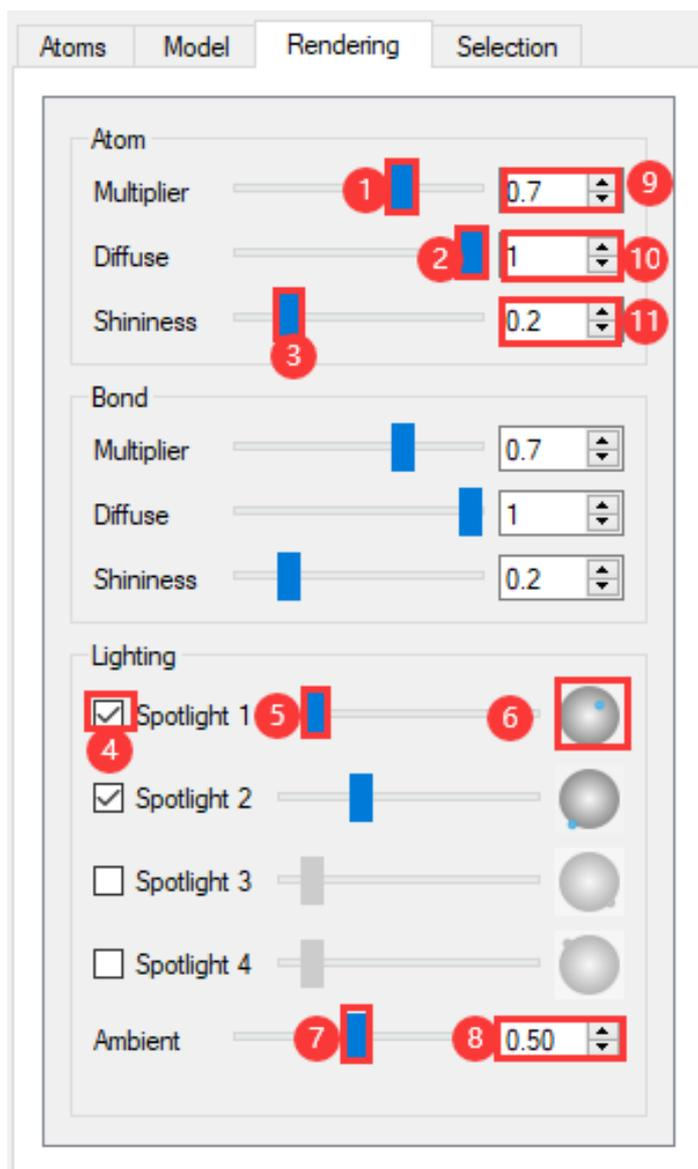
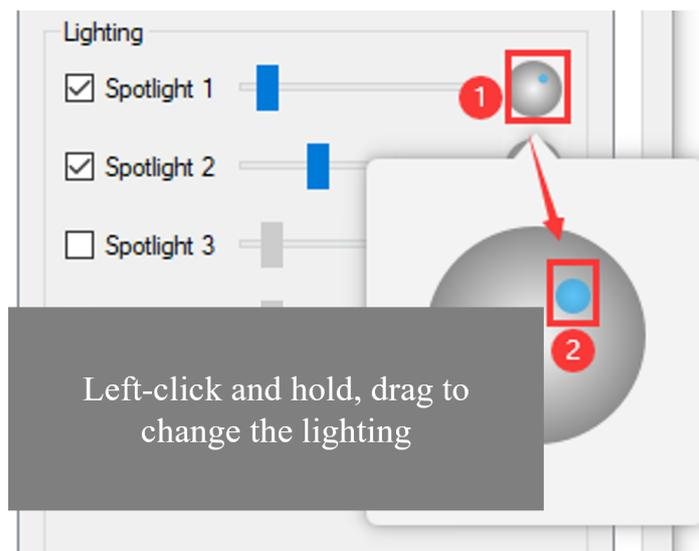

fig. 6.14: Structure Refinement Module Parameter Adjustment Area - Rendering Area
fig. 6.15: User interface for adjusting the beam's position on the atoms.
The Rendering area in the Structure Refinement Module (SRM) parameter adjustment region, as shown in fig. 6.14, is divided into three parts: **Atom**, **Bonds**, and **Lighting**. These allow for lighting adjustments to atoms, bonds, and the entire atomic structure, respectively. Atom and bond lighting is controlled by three parameters: Multiplier, Diffuse, and Shininess. The **Lighting** section adjusts the lighting of the entire atomic structure. This module provides the following functionality:
The following describes the functionality of each labeled feature in the Rendering area of the Structure Refinement Module (SRM) parameter adjustment region, i.e., fig. 6.14:
- * Labels ①, ②, ③ and ⑨, ⑩, ⑪ in fig. 6.14: Adjust the lighting of atoms in the structure by dragging the **slider** at positions ①, ②, ③ or setting the **numerical value** at positions ⑨, ⑩, ⑪. This is achieved by adjusting the Multiplier (high-light coefficient), Diffuse (diffuse reflection coefficient), and Shininess (shininess) parameters, and the effect can be seen in real time in the SRM structure display area.
- * Item ④ in fig. 6.14: Controls whether a light beam (e.g., Spotlight 1) illuminates the atom, with real-time effects visible in the SRM structure display area.
- * Item ⑤ in fig. 6.14: Adjusts the brightness of the beam (e.g., Spotlight 1), with real-time effects visible in the SRM structure display area.
- * · Click the button in area ⑤ with the left mouse button, hold and drag to the left to decrease the beam brightness, making it dimmer.
- * · Click and hold the button in area ⑤ with the left mouse button and drag to the right to increase the beam brightness.
- * Number ⑥ in fig. 6.14: Adjusts the position of the beam illuminating the atom, with the adjustment effect visible in real time in the SRM structure display area;
- * · Clicking label ⑥ in fig. 6.14 adjusts the beam's position on the atom, as shown in fig. 6.15.
- * Click labels ⑦ and ⑧ in fig. 6.14, drag label ⑦ to **slide the button** or set the value at label ⑧ to adjust the atom structure lighting via the Ambient parameter. The adjustment effect can be seen in real-time in the SRM structure display area.